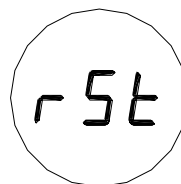

Figure 18: Relay Reset
- The relays can be reset via the magnetic switch using a magnet. Place the magnet over the GM logo on the cover of the unit. After three seconds, the display will show "rSt". Remove the magnet at this time and the relays will be reset (Figure 18).